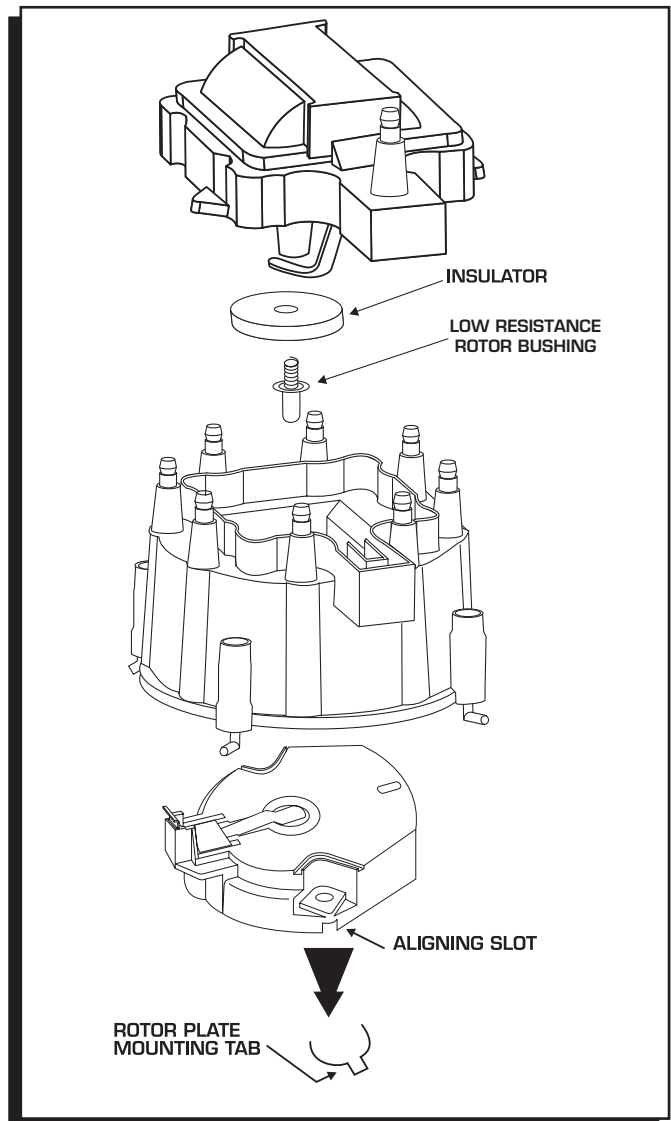

Figure 4 Installing the Modified Dust Cover.
4. Inspect the rotor bushing for wear and replace if necessary. Make sure the rubber bushing remains in place and install the Modified Dust Cover using the original hardware. Note that the brass terminal must make contact with the rotor bushing (Figure 4).